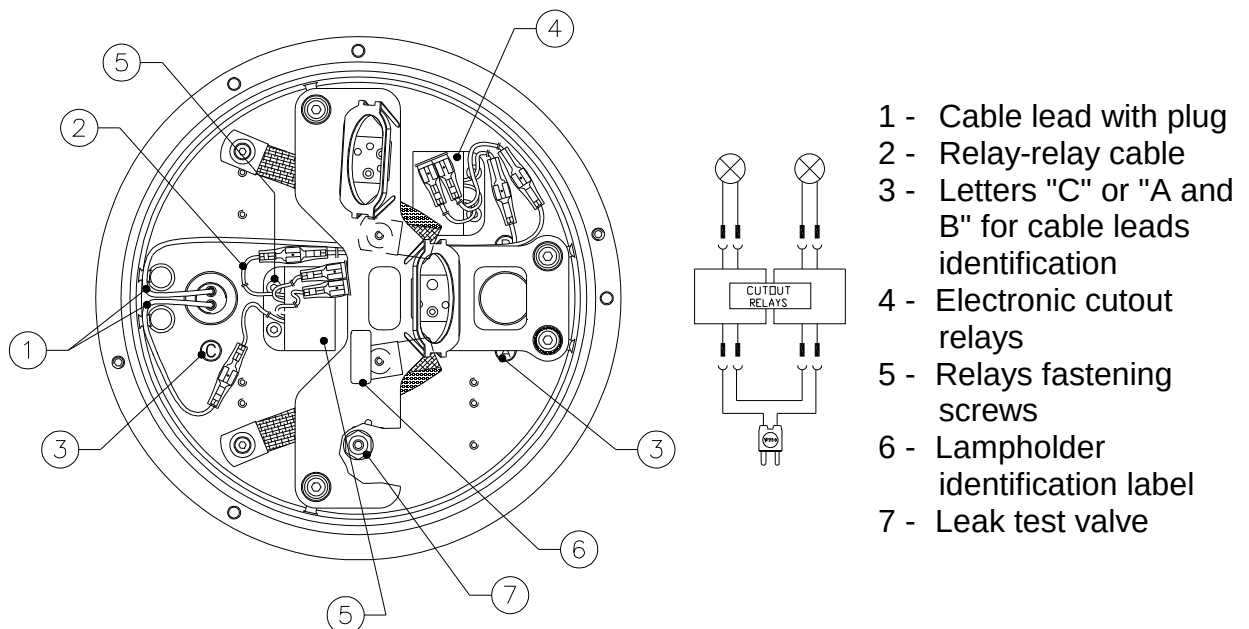

Figure 10 – Lower cover with one cable lead and optional electronic cutout relays – Inside view
- ▣ Method “B” – cable leads to be laid in cable ducts (fig.10)